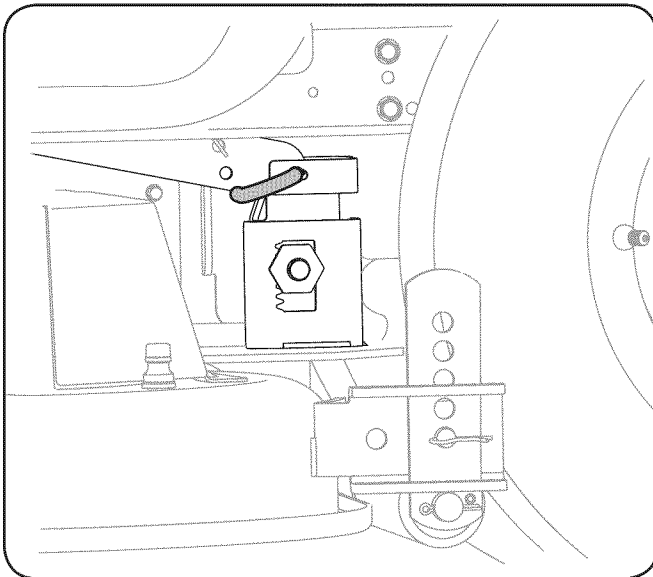

Figure 7-1
5. Pull the deck support pin outward to release the deck from the deck lift arm. See Fig. 7-1.